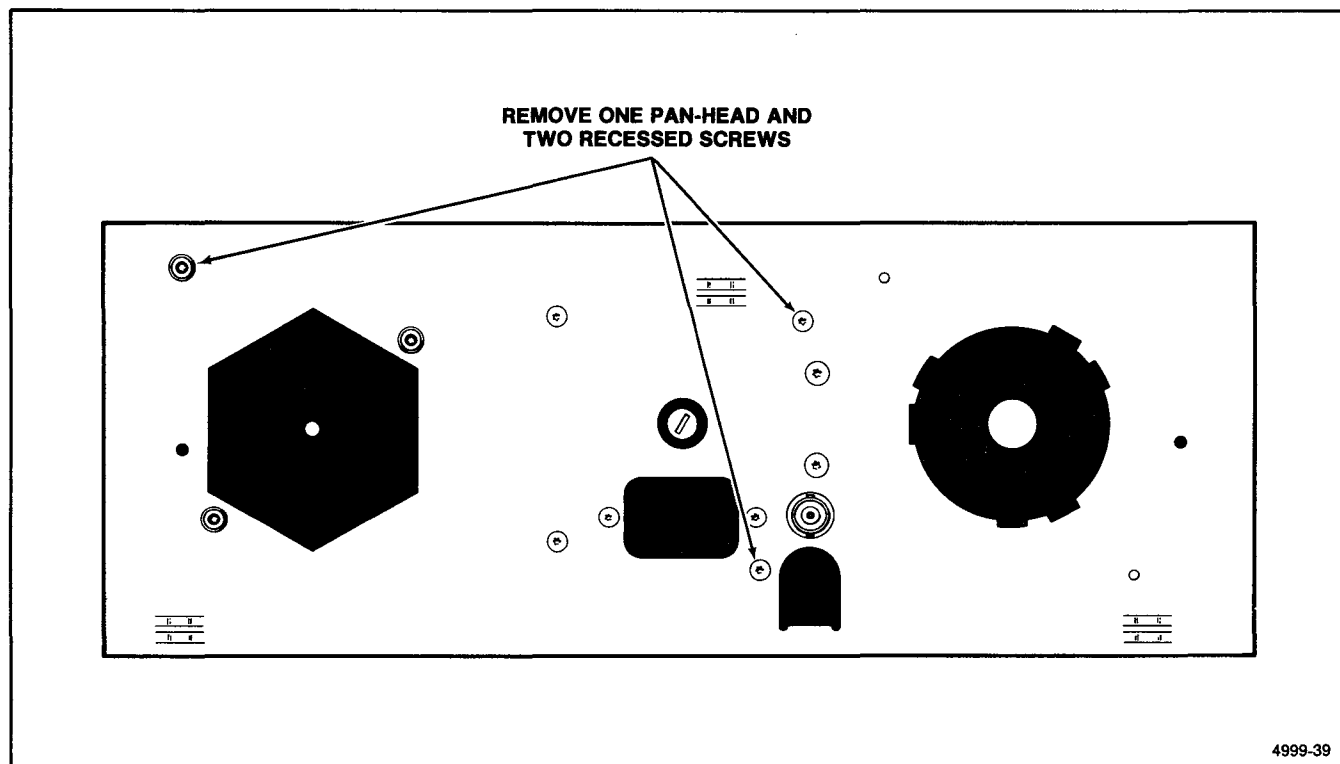

Figure 6-7. Location of screws securing Power-Supply shield and the support bracket to the rear chassis frame.
5. Remove one pan-head and two recessed screws securing the Power-Supply shield to the rear chassis frame. See Figure 6-7 for the location of the three screws.